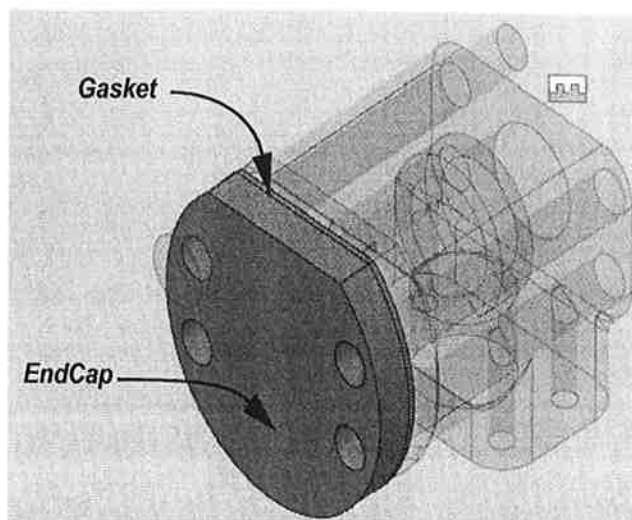

Figure 16–26
9. Select the Gasket and EndCap components, as shown in Figure 16–26. A shaking animation is displayed, indicating that the two components are now rigidly connected.